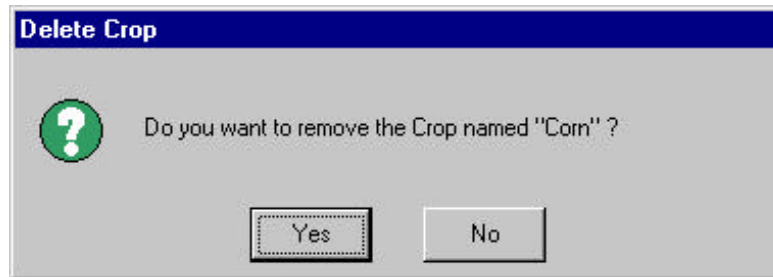

Figure 14.41
- c. A prompt box will appear requesting the user to verify the delete (Figure 14.41).